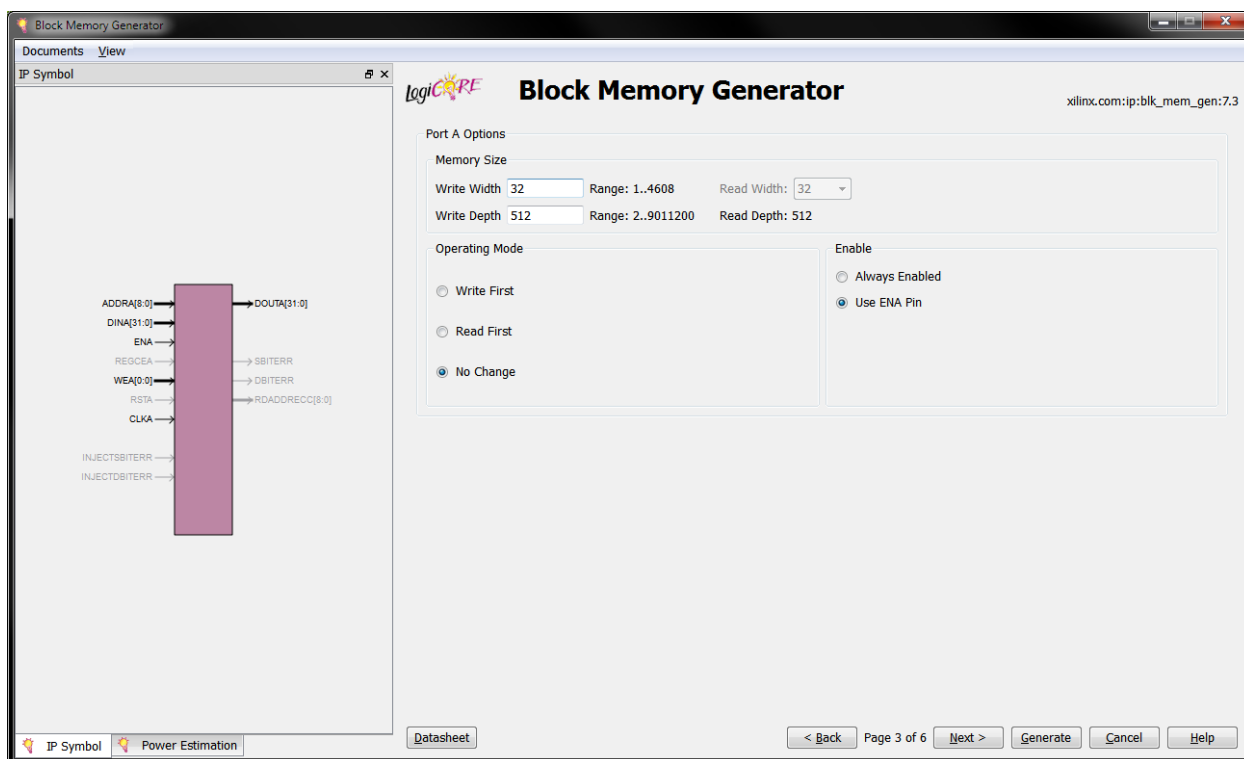

FIGURE 10 - BLOCK MEMORY CONFIGURATION PAGE 3
2.13. Add a new source of type "IP" named "Memory." Select "Block Memory Generator" for the IP type. Click "Next" until you arrive on page 3 of the configuration. Configure this page as shown below in Figure 10.